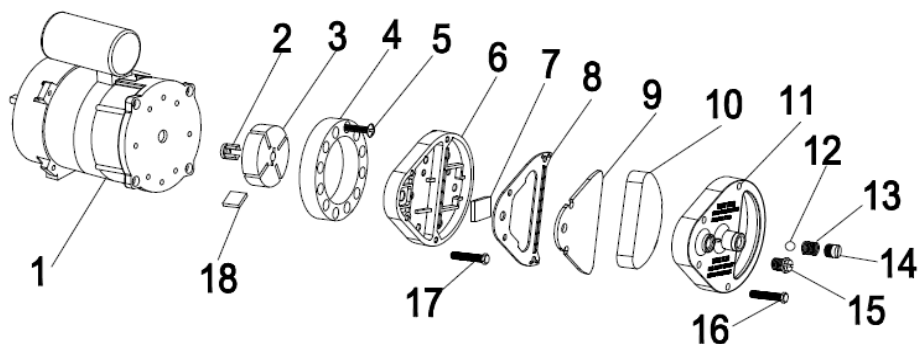

Fig.3
- Remove the filter end cover (11)
- Wash the air inlet filter (10) in a mild detergent and dry thoroughly before reassembling.
- The forced air filter (9) should be replaced once a year. *(See Figure 3).*